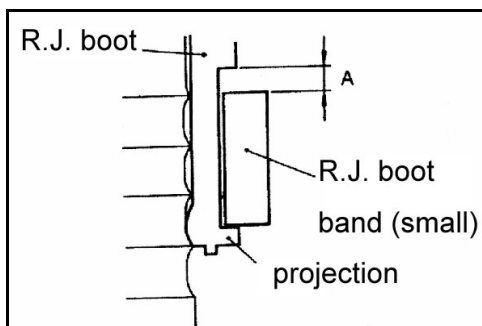

Fig.12-35
(1) The value of W will change by approximately 0.7mm for each turn of the adjusting bolt.
(2) The adjusting bolt should not be turned more than once.
⑥ Place the R.J. boot band (small) against the projection at the edge of the boot, and then secure it so that there is a clearance left as shown by (A) in the Fig.12-35.